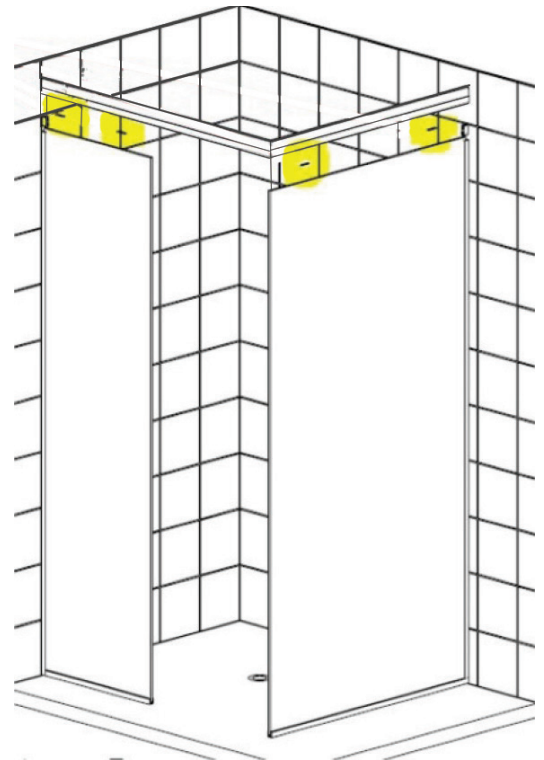

FIG 23.
- Use 2mm setting blocks on top of fixed glass panels to prevent the sliding door track metal directly contacting the glass. Dry fit and position on top of glass (FIG 23).